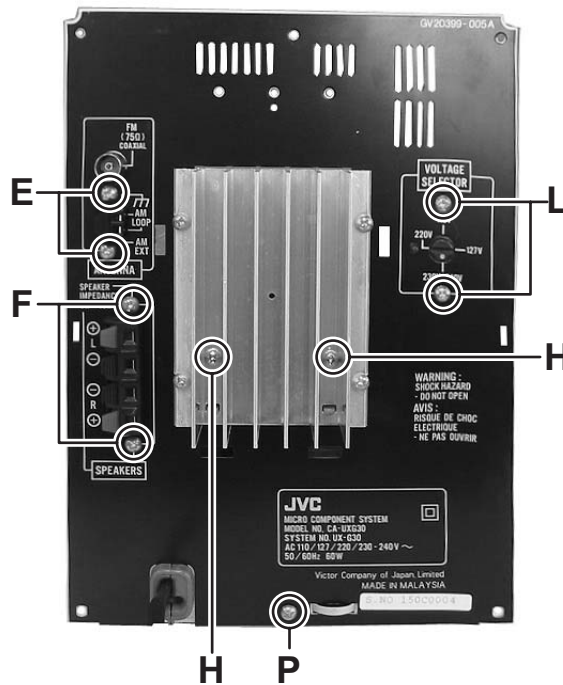

Fig.7
- (2) Remove the two screws **E** attaching the tuner pack. (See Fig.7)
- (1) Remove the two screws **F** attaching the micon board. (See Fig.7)
(See Fig.7, 8)
- (1) Remove the two screws **H** attaching the power IC. (See Fig.7)
3.1.8 Removing the trans board (See Fig.7, 10, 11)
- (1) Remove the two screws **L** attaching the trans board. (See Fig.7)
(See Fig.7, 12)
- (1) Remove the one screw **P** attaching the rear panel. (See Fig.7)